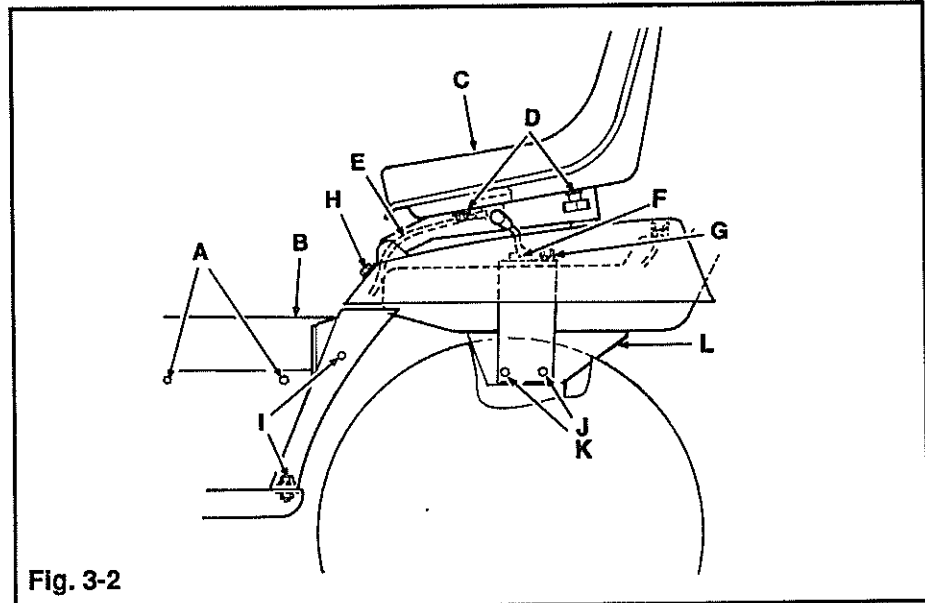

Fig. 3-2
HYDROSTATIC REMOVAL (Fig. 3-2, 3-3 & 3-4)
2. Remove four (4) bolts (A, Fig. 3-2) securing tunnel cover (B).
3. Loosen seat (C) at screws and knobs (D). Remove from seat support. Disconnect seat switch wires (E) and remove seat.
4. (TWO SPEED MODELS) Remove roll pin (F) from shift lever (G). Remove shift lever.
5. Remove the 2-5/16 Flange Nuts (G) securing rear of fender and the 2-5/16 Flange Bolts (H) securing front of fender. Pull seat switch wires through seat support and fender. Remove fuel cap and lift fender and seat support off.
9. On the Left side of the tank, remove the two (2) lower 3/8 x 1 bolts and flange nuts (J, Fig. 3-2). On the right side, remove the lower two (2) 3/8 flange bolts (K) which are threaded into the rear axle housing (L). Remove fuel tank.